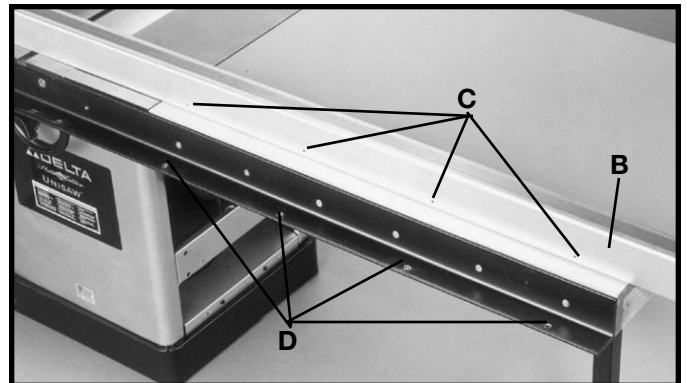

Fig. 102
1. Lay the guide tube (B) Fig. 102, on the saw table as shown, and line up the threaded holes (C) on bottom of guide tube (B) with the through holes (D) on the front rail (A).